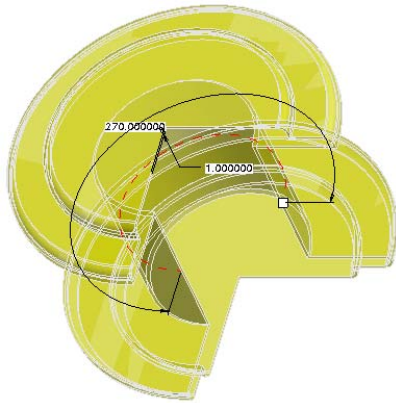

Figure 3-71 Model after specifying attributes
- e. Specify the attributes of the model and then save it, refer to Figures 3-71 and 3-72.
The trimetric view of the model after specifying all attributes is shown in Figure 3-71.